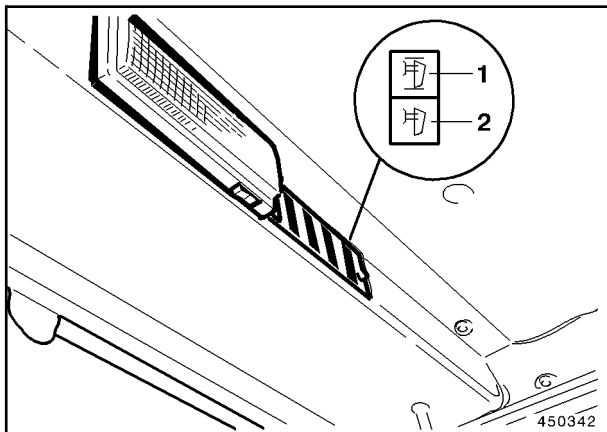
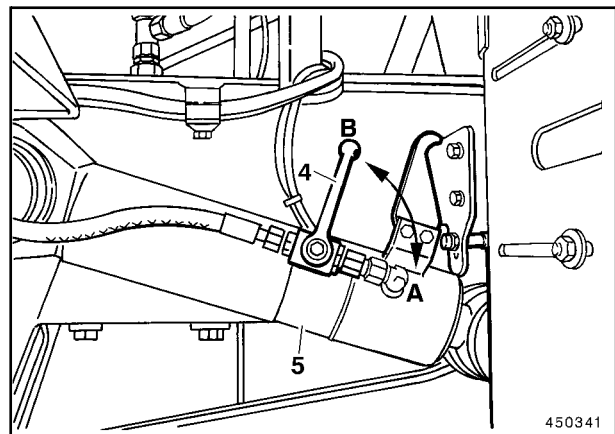

Fig. 5
Fig. 6
The actual position of the rear ripper is indicated by lamps (1 and 2, Fig. 5).
Use control lever (64) to bring rear ripper into such a position that indicator lamp (1, Fig. 5) is lit up green. Never raise rear ripper up to limit position. The rear lamps are otherwise concealed. When the transport position is reached set lever (4, Fig. 6) on the rear ripper cylinder to position B.